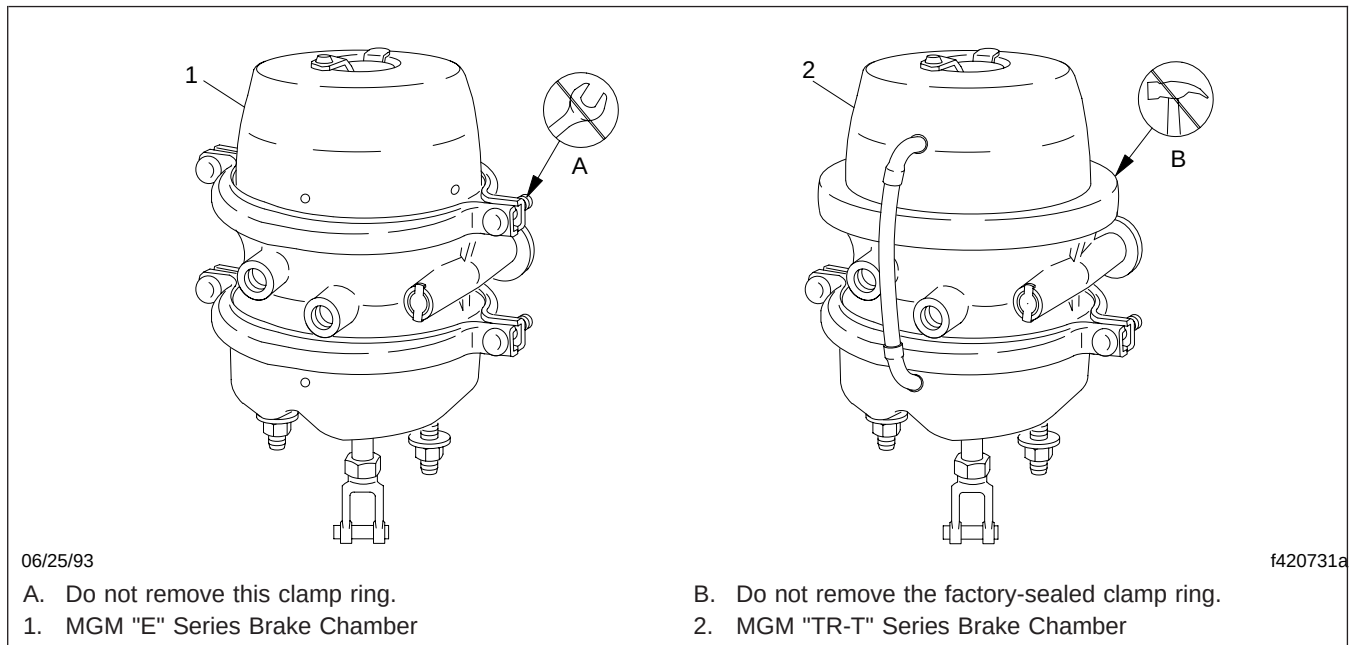

Fig. 1, Service/Parking Brake Chambers
Do not loosen or remove the parking brake clamp ring (see Fig. 1) for any purpose at any time. The parking/emergency brake section is not intended to be serviced. Serious injury or death may result from sudden release of the power spring.
Do not loosen or remove the parking brake clamp ring (see **Fig. 1**) for any purpose at any time. The parking/emergency brake section is not intended to be serviced. Serious injury or death may result from sudden release of the power spring.
- 3.2 Using soapy water, coat the service chamber clamp ring. Leakage is excessive if it produces a 1-inch (25-mm) bubble within 5 seconds. See Fig. 1. On Bendix service chambers, tighten the clamp ring enough to stop the leakage, but do not exceed the maximum torque limits in Table 2. *Do not overtighten.*